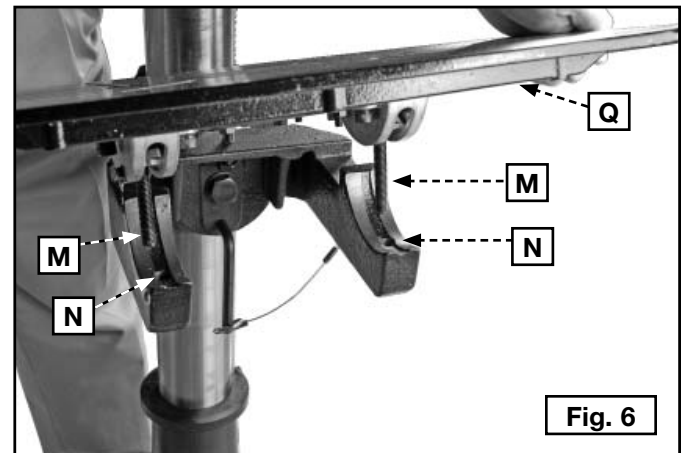

Fig. 6
4. Align the bolts (M) Fig. 6 on the table (Q) with the holes in the table support (N) and set the table on the table supports.